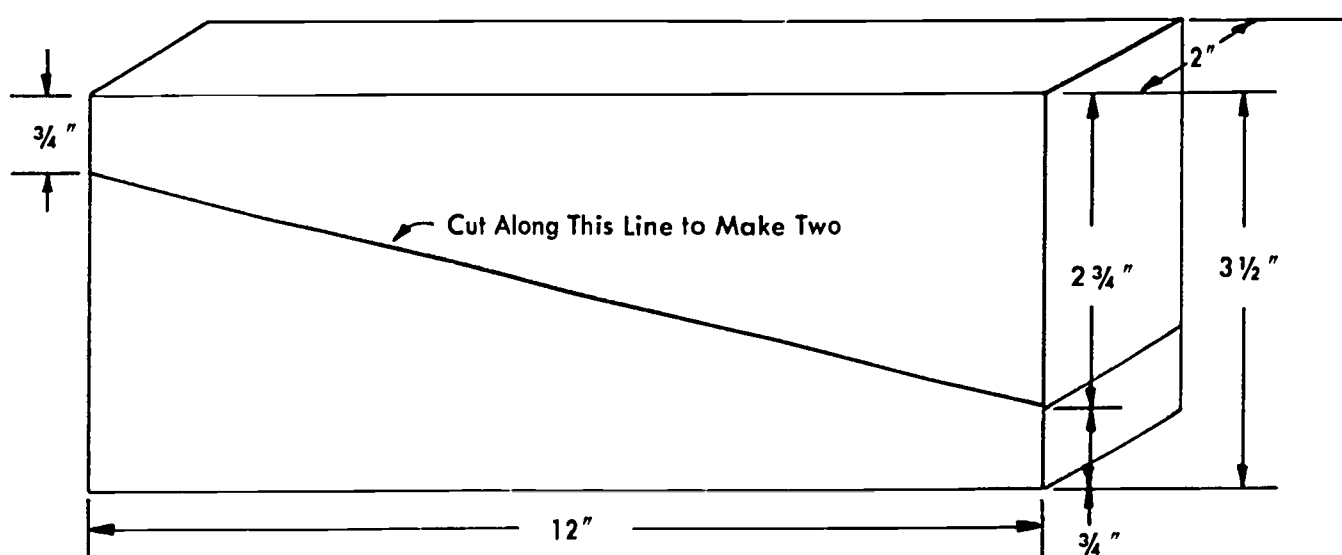

Fig. 21-1. Layout for Foamed Styrene Mock-Up
4. Hand out precut foamed styrene blocks. See Fig. 21-1 for shape and size require-